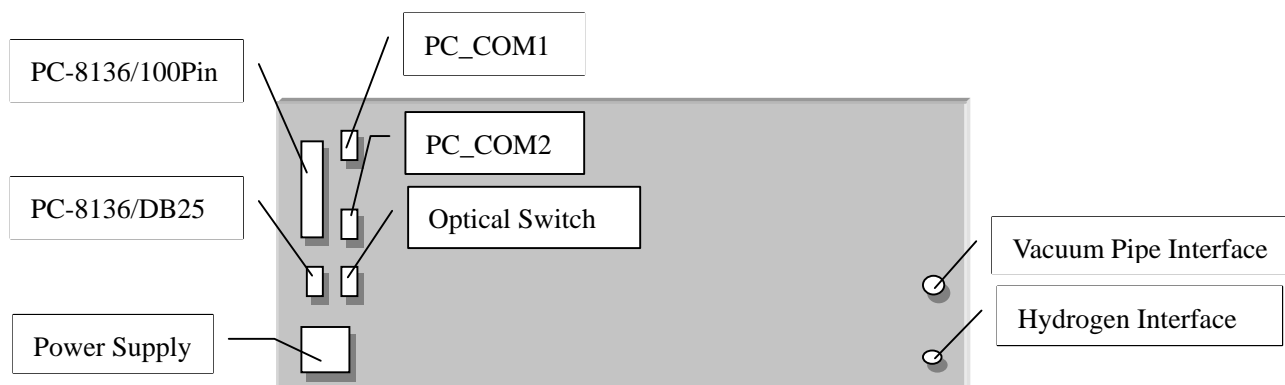

Figure 2: Connection the system
3.2.3 System connection please see figure 2, you may find the power supply cable in OC-2010 system packing.